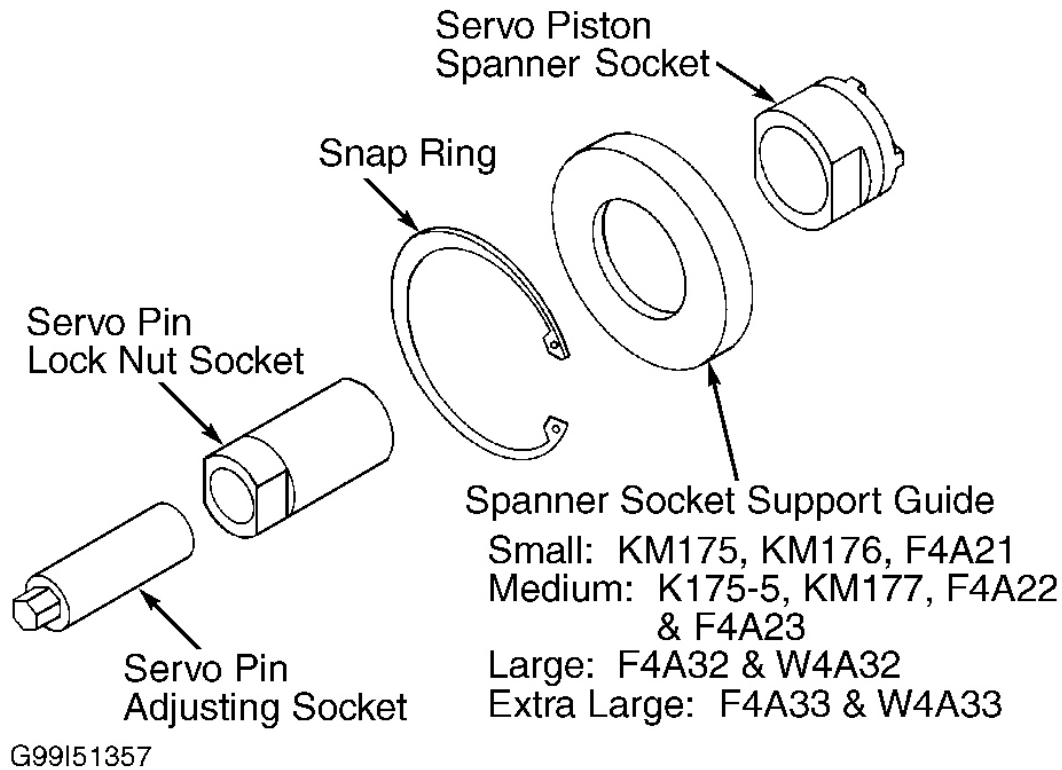

Fig. 6: Identifying KM Band Adjusting Tool Components
1. Ensure case area around servo cover is clean. Remove servo cover snap ring and servo cover. Select the correct Spanner Socket Support Guide to fit the servo bore from the 4 sizes available. See **Fig. 6**.